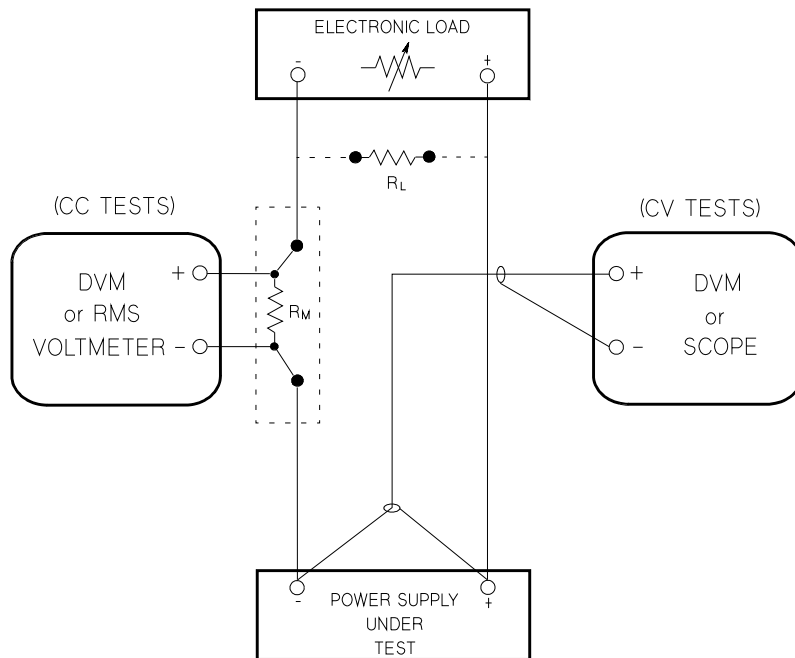

Figure 1-1 Performance verification test setup
- Figure 1-1 Performance verification test setup 8
To eliminate output current measurement error caused by the voltage drops in the leads and connections, connect the current monitoring resistor between the (-) output terminal and the load as a four-terminal device. Connect the current-monitoring leads inside the load-lead connections directly at the monitoring points on the resistor element (see R_M in Figure 1-1).
- 1 Turn off the power supply and connect a digital voltmeter between the (+) and (-) terminals of the output to be tested as shown in Figure 1-1.
- 1 Turn off the power supply and connect a digital voltmeter between the (+) and (-) terminals of the output to be tested as shown in **Figure 1-1**.
- 1** Turn off the power supply and connect a digital voltmeter between the (+) and (-) terminals of the output to be tested as shown in **Figure 1-1**.
- 1 Turn off the power supply and connect the output to be tested as shown in **Figure 1-1** to an oscilloscope (AC coupled) between (+) and (-) terminals. Set the oscilloscope to AC mode and bandwidth limit to 20 MHz. Connect a resistive load (7.5 Ω) as shown in **Figure 1-1**.
- 1 Turn off the power supply and connect the output to be tested as shown in Figure 1-1 with an oscilloscope. Operate the electronic load in constant current mode.